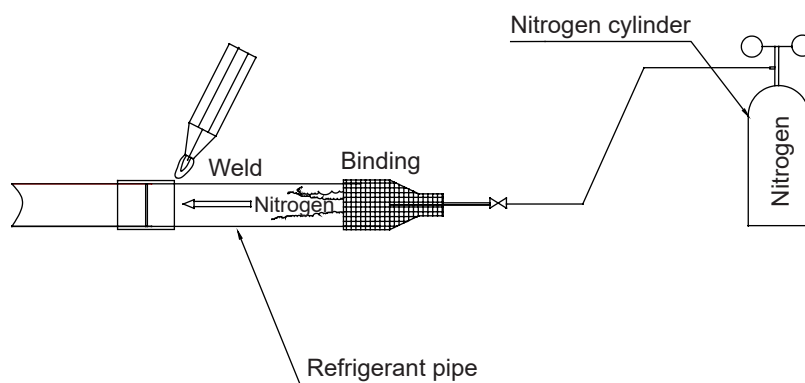

Fig.10
- To weld the refrigerant pipe, please make nitrogen replacement (*1), or send nitrogen (*2) into the refrigerant pipe while welding the pipe (refer to Fig.10). Finally use the flare or flange to connect the indoor unit and valve box.